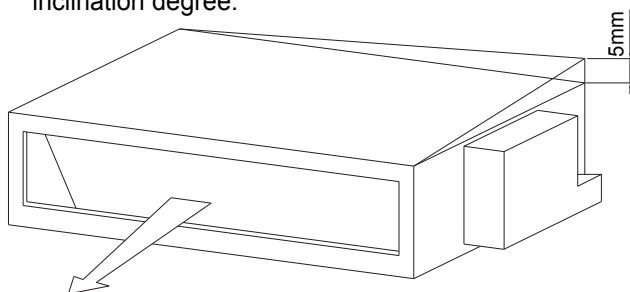

Fig. 4.7 Top Surface Inclination Degree
- (2) As shown in Fig. 4.7, the rear part of indoor unit is slightly lower than its front part (by 0~5mm) so as to facilitate drainage.
- (3) Tighten the suspension nut upon completion of adjustment. It's essential to apply thread locker to prevent the nut getting loose.